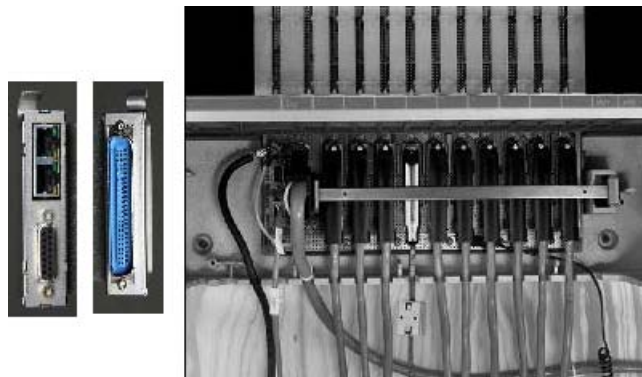

Figure 37: Cabinet
- Connect the MGC DECT Clock Reference Cable (NTDW67AAE5) to 15-pin DSUB connector on the Breakout Adapter Figure 37: Cabinet on page 175 shows the Cabinet.